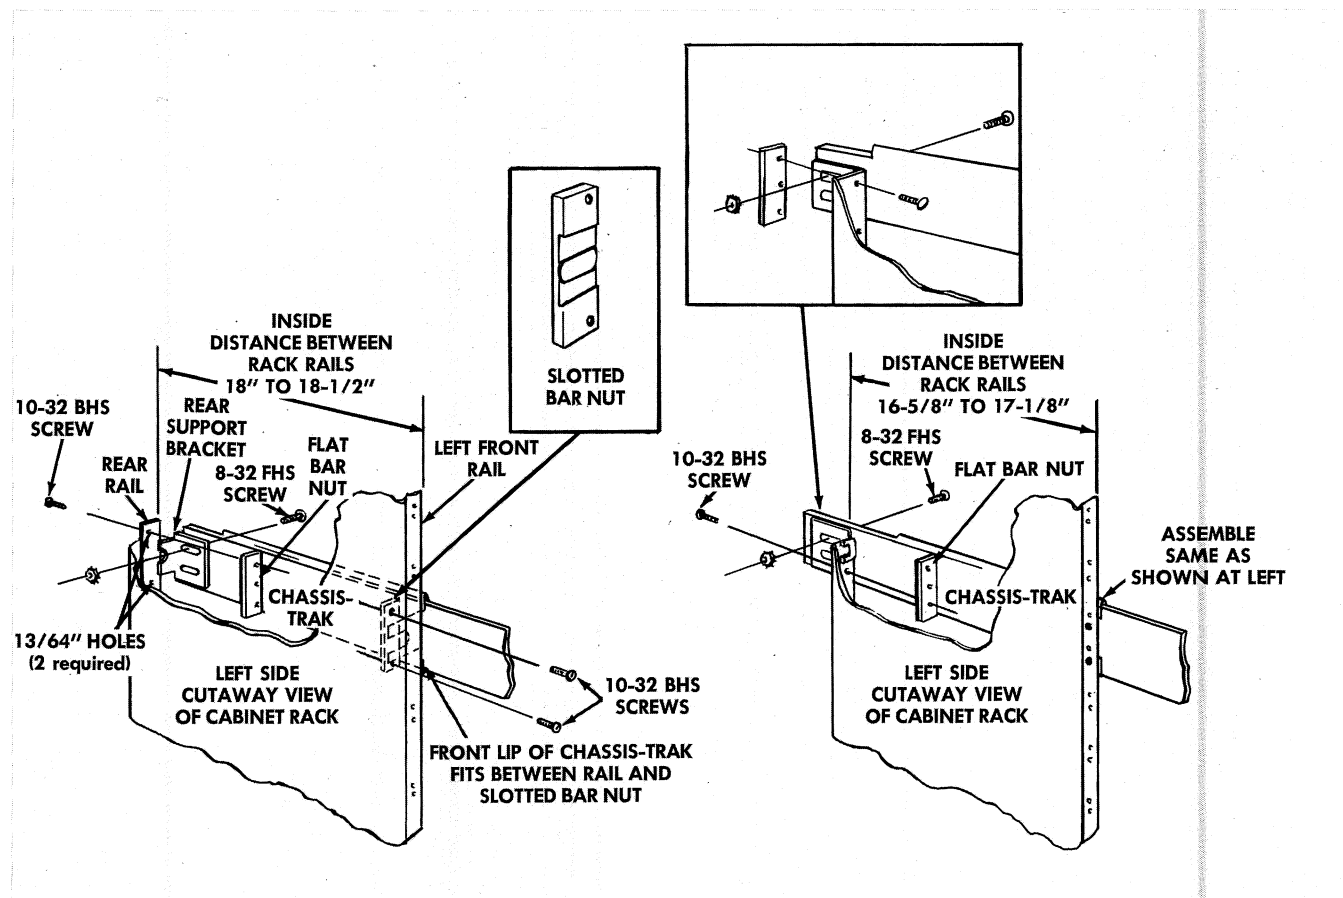

Fig. 2-5. Methods for mounting the Chassis-Traks.
3. Slip the front lip of the left-hand Chassis-Trak between the rail and the bar nut as shown in Fig. 2-5 (a).
5. Hold the rear support bracket so that it aligns with the rear of the Chassis-Trak stationary section and the rack. Mark two points on the rack for location of the $\frac{13}{64}$ -inch holes needed to mount the rear support bracket. If your rack has front and rear rails which are 18 to $18\frac{1}{2}$ inches apart, see Fig. 2-5 (a); if the rack rails are $16\frac{5}{8}$ inches to $17\frac{1}{8}$ inches apart, see Fig. 2-5 (b). Drill the holes.
6. Fasten the bracket to the rack and to the rear of the stationary section using the flat bar nut, 10-32 BHS screws, 8-32 FHS screws, and nuts. Figs. 2-5, (a) and (b), show the methods used for assembling the bracket in 19-inch and 17-inch racks respectively.